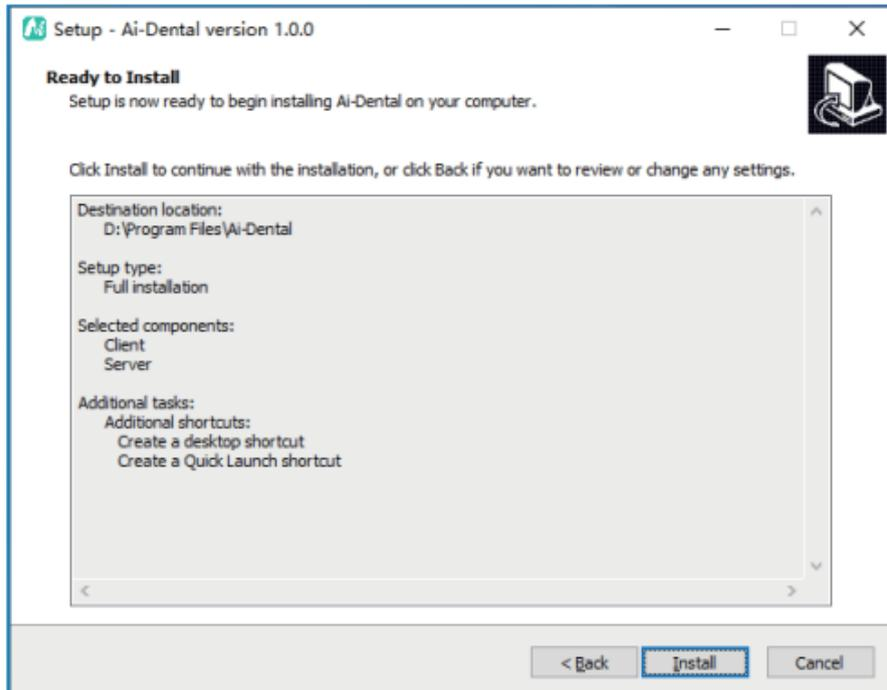

Figure 6
e) According to the user's choice, the installation program displays the component to be installed and the shortcut to be added. The user can click "Back" to modify or click "Next" to install, as shown in Figure 6: